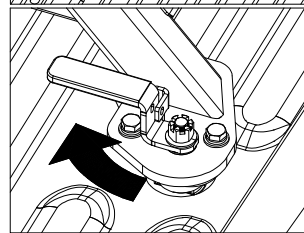

Figure C2:
3. **Prepare to adjust latch tension.** Once the base is in place, remove the cotter pins from each of the four castle nuts. Engage the cams with each attachment point by turning the latch handles back to their locked position, see Figure C2. If a handle will not turn easily, loosen the castle nut until the cam will freely turn and engage the attachment point.